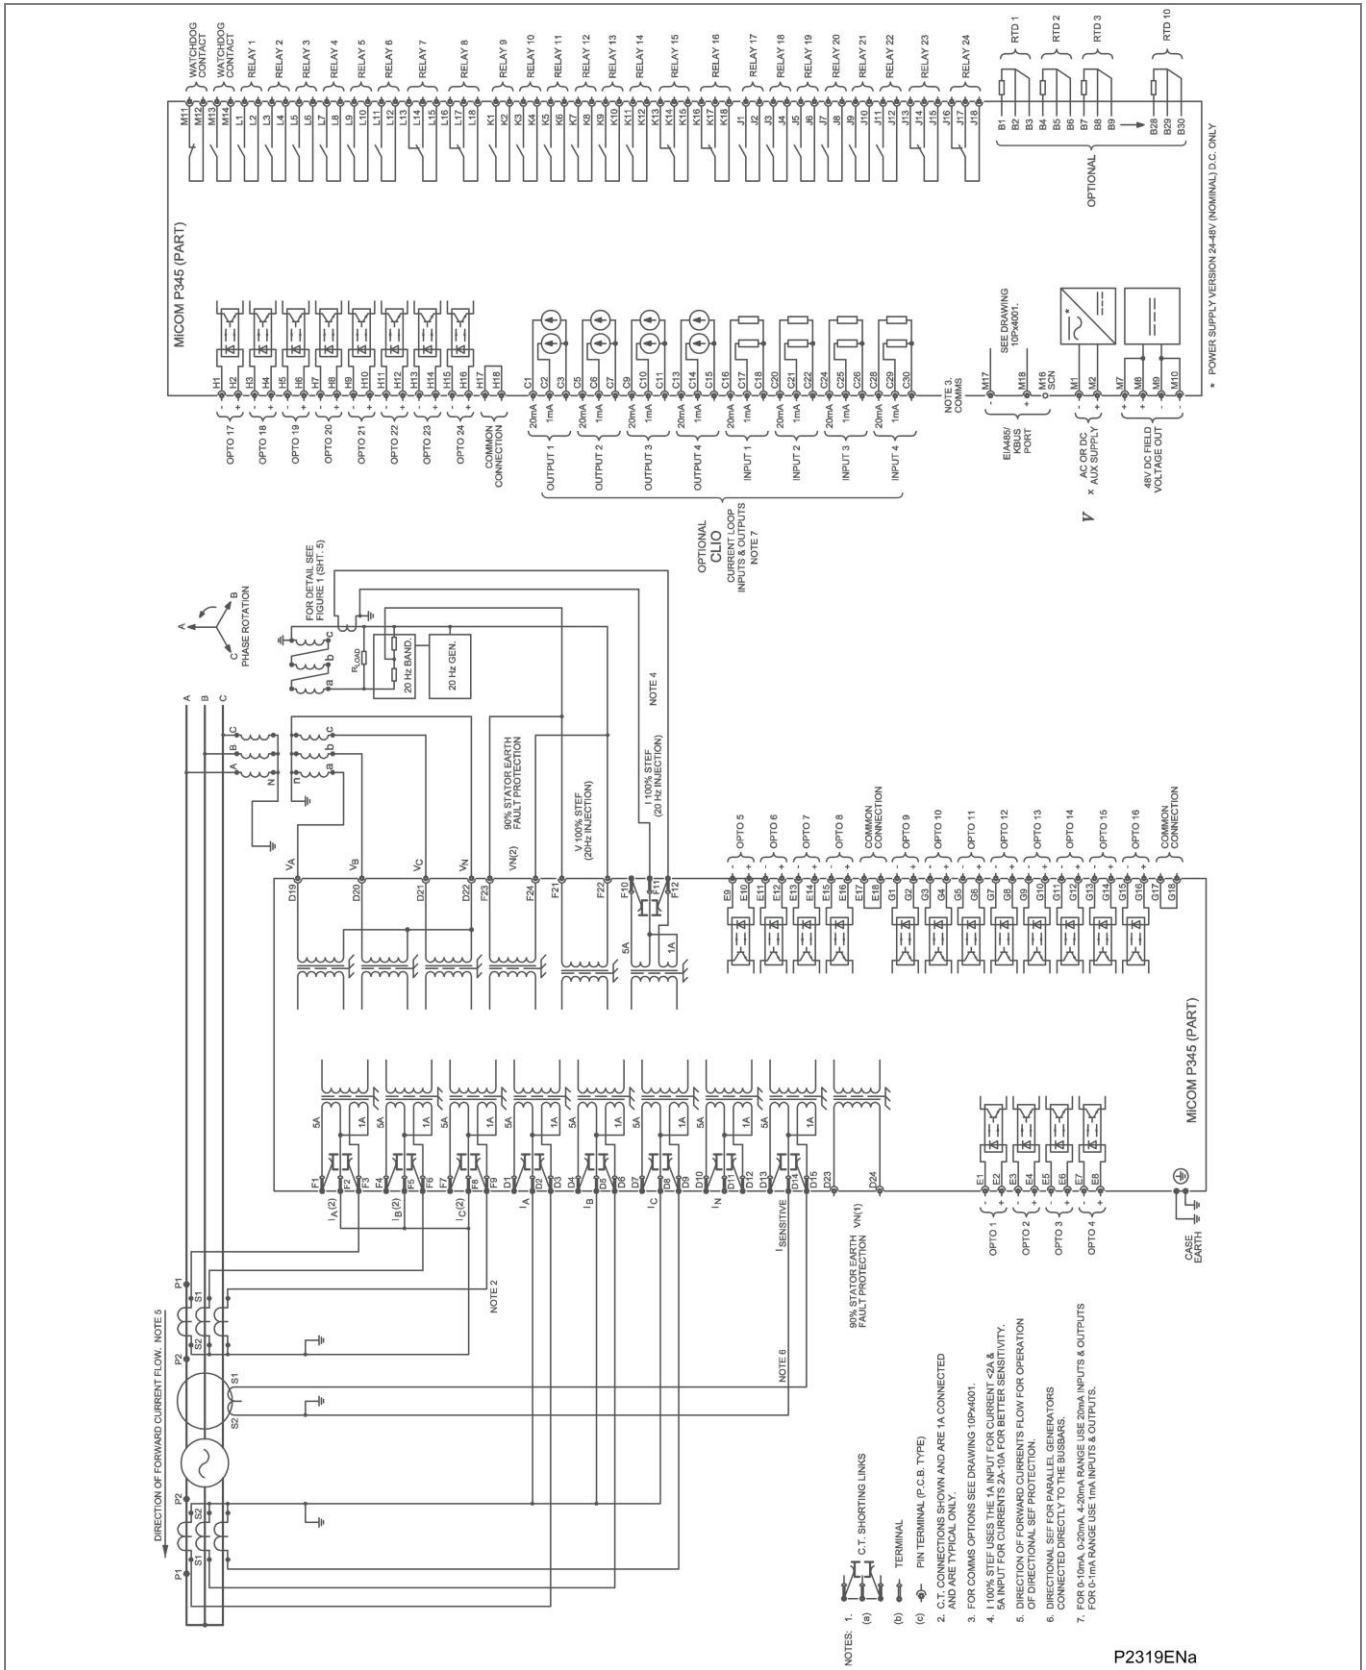

Figure 52 - P345 (80TE) with 100% stator earth fault protection via neutral earthing transformer with secondary loading resistor (24 I/P & 24 O/P & CLIO & RTD)
- Figure 52 - P345 (80TE) with 100% stator earth fault protection via neutral earthing transformer with secondary loading resistor (24 I/P & 24 O/P & CLIO & RTD)